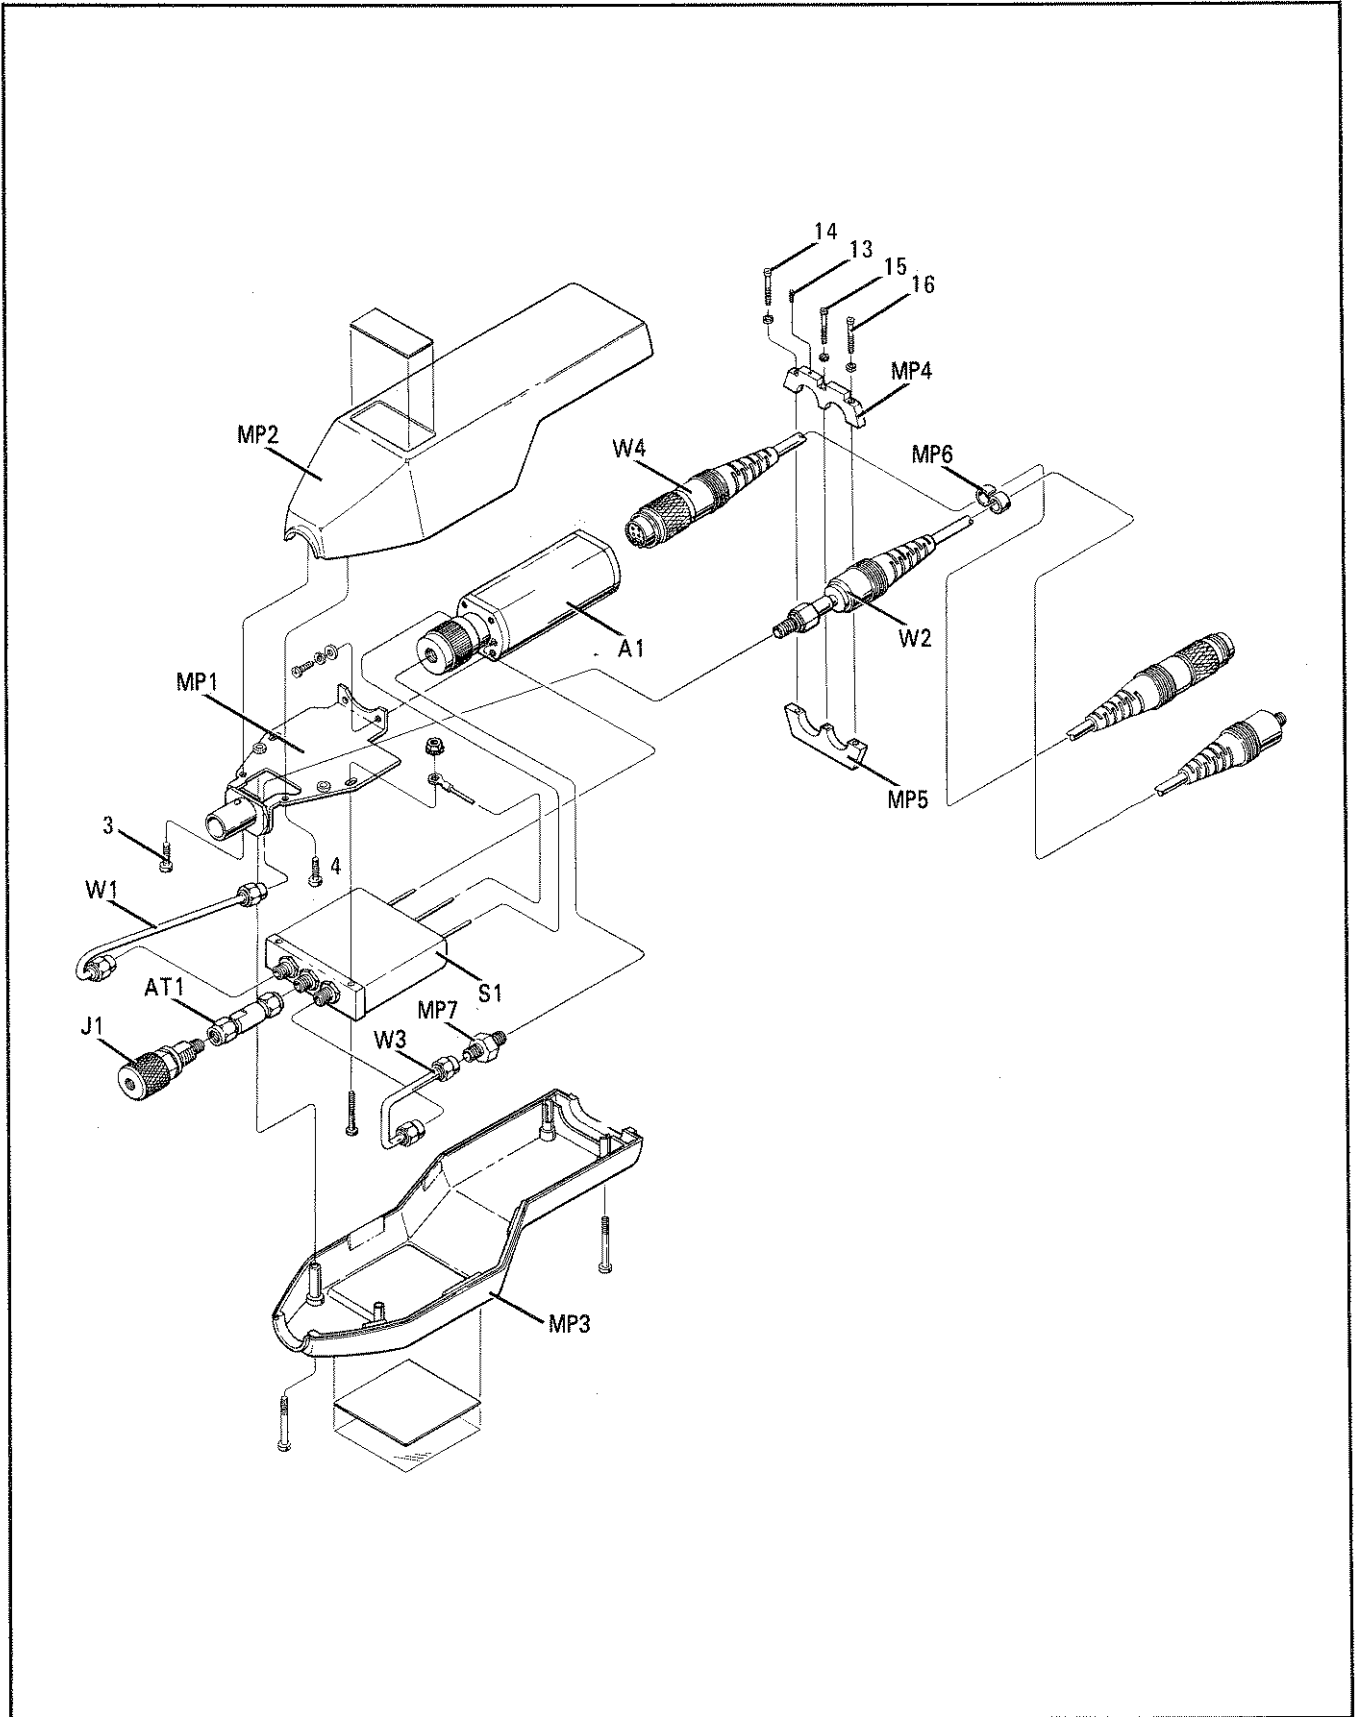

Figure 2. Sensor Module Exploded View
Table 4, **Replaceable Parts**, is directly cross-referenced to Figure 2. The following information is provided for each part:
The components of the Sensor Module are identified in Figure 2.
*Figure 2, Sensor Module Exploded View, shows the locations of the assemblies and mechanical parts. Paragraphs 27 and 28 are simple disassembly and reassembly procedures.*
Refer to Figure 2 for parts identification.